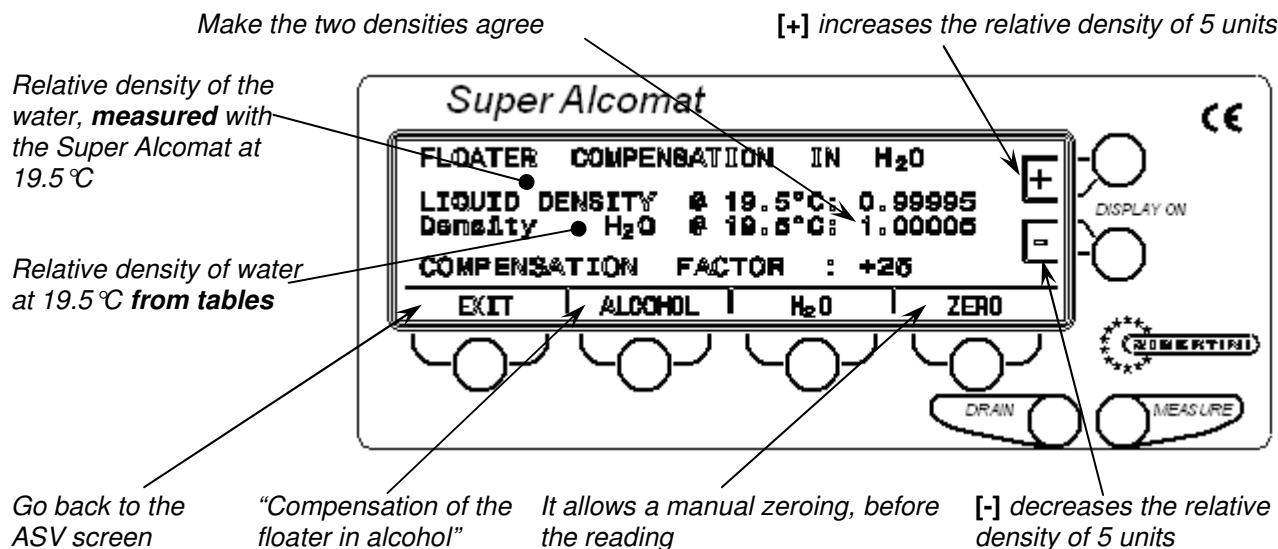

Fig. 10: Compensation of the floater with distilled water
- the display shows the current compensation factor, the relative density that water should have at the measured temperature, and the relative density of the water actually measured by the instrument (Figure 10);